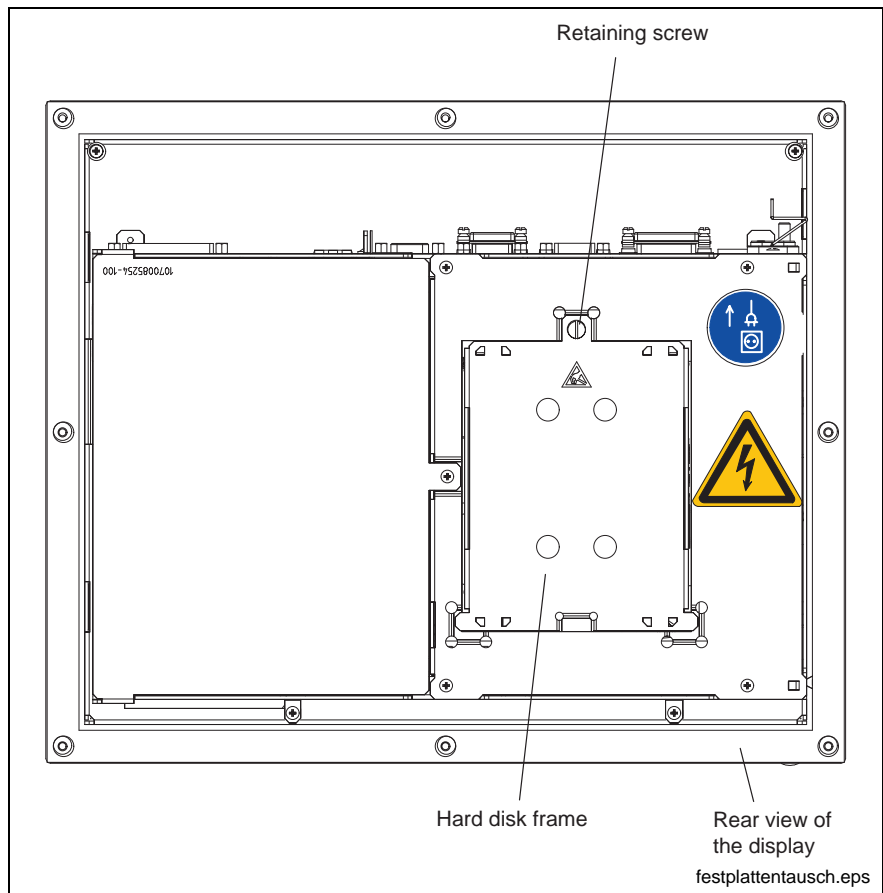

Fig. 8-1: Position of the hard disk's installation frame and the retaining screw
4. Loosen the retaining screw of the hard disk's installation frame on the rear side of the operator terminal (see Fig. 8-1). Lift the hard disk frame and after releasing the retaining spring unplug the ribbon cable, with which the hard disk is connected to the main board. Now, the installation frame with hard disk can be removed.